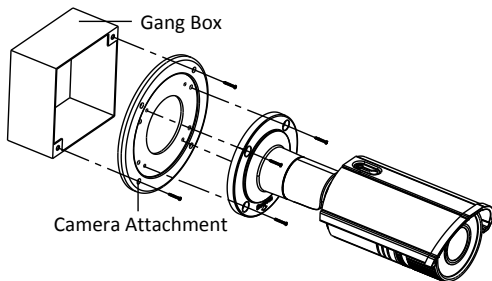

Figure 2-7 Secure the Camera
3. Secure the camera to the camera attachment with screws. Refer to the Figure 2-7.